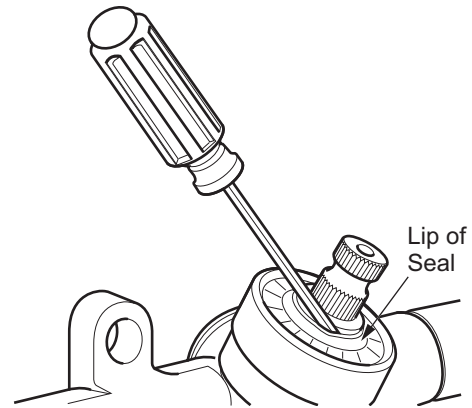

Figure 15 Pinion Seal Replacement
- Slide a small straight blade screwdriver between the lip of the seal and the pinion and pry the top portion of the seal up to remove (Ref. Figure 15).